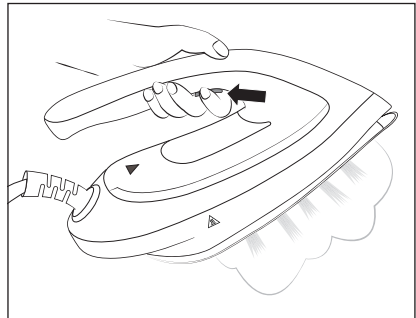

Fig. 5
- 2) Take the steam iron **1** off its base **17**, and press the steam button **2** (see Fig. 5) while ironing. Steam escapes from the steam outlet openings in the soleplate **4**.